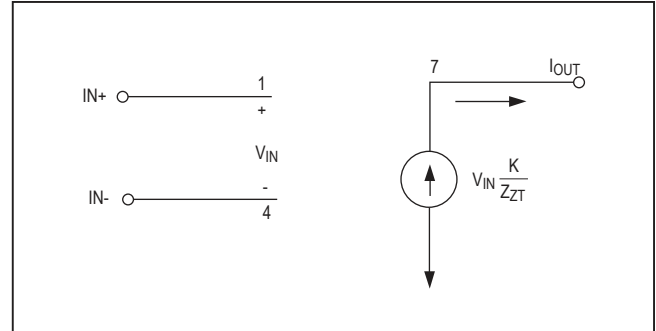

Figure 1. Operational Mode
The output is essentially a voltage-controlled current source as shown in Figure 1. The MAX9547 output is a current proportional to the differential input voltage, and inversely proportional to the impedance of the user-selected transconductance network, Z_{ZT} . The current output provides inherent short-circuit protection for the output terminal. A differential input voltage applied to the input terminals causes current to flow in the transconductance element (Z_{ZT}), which is equal to V_{IN}/Z_{ZT} . This current in the transconductance element is multiplied by the preset current gain (K) and appears on the output terminal as a current equal to $(K) \times (V_{IN}/Z_{ZT})$. This current flows through the load impedance to produce an output voltage according to the following equation: